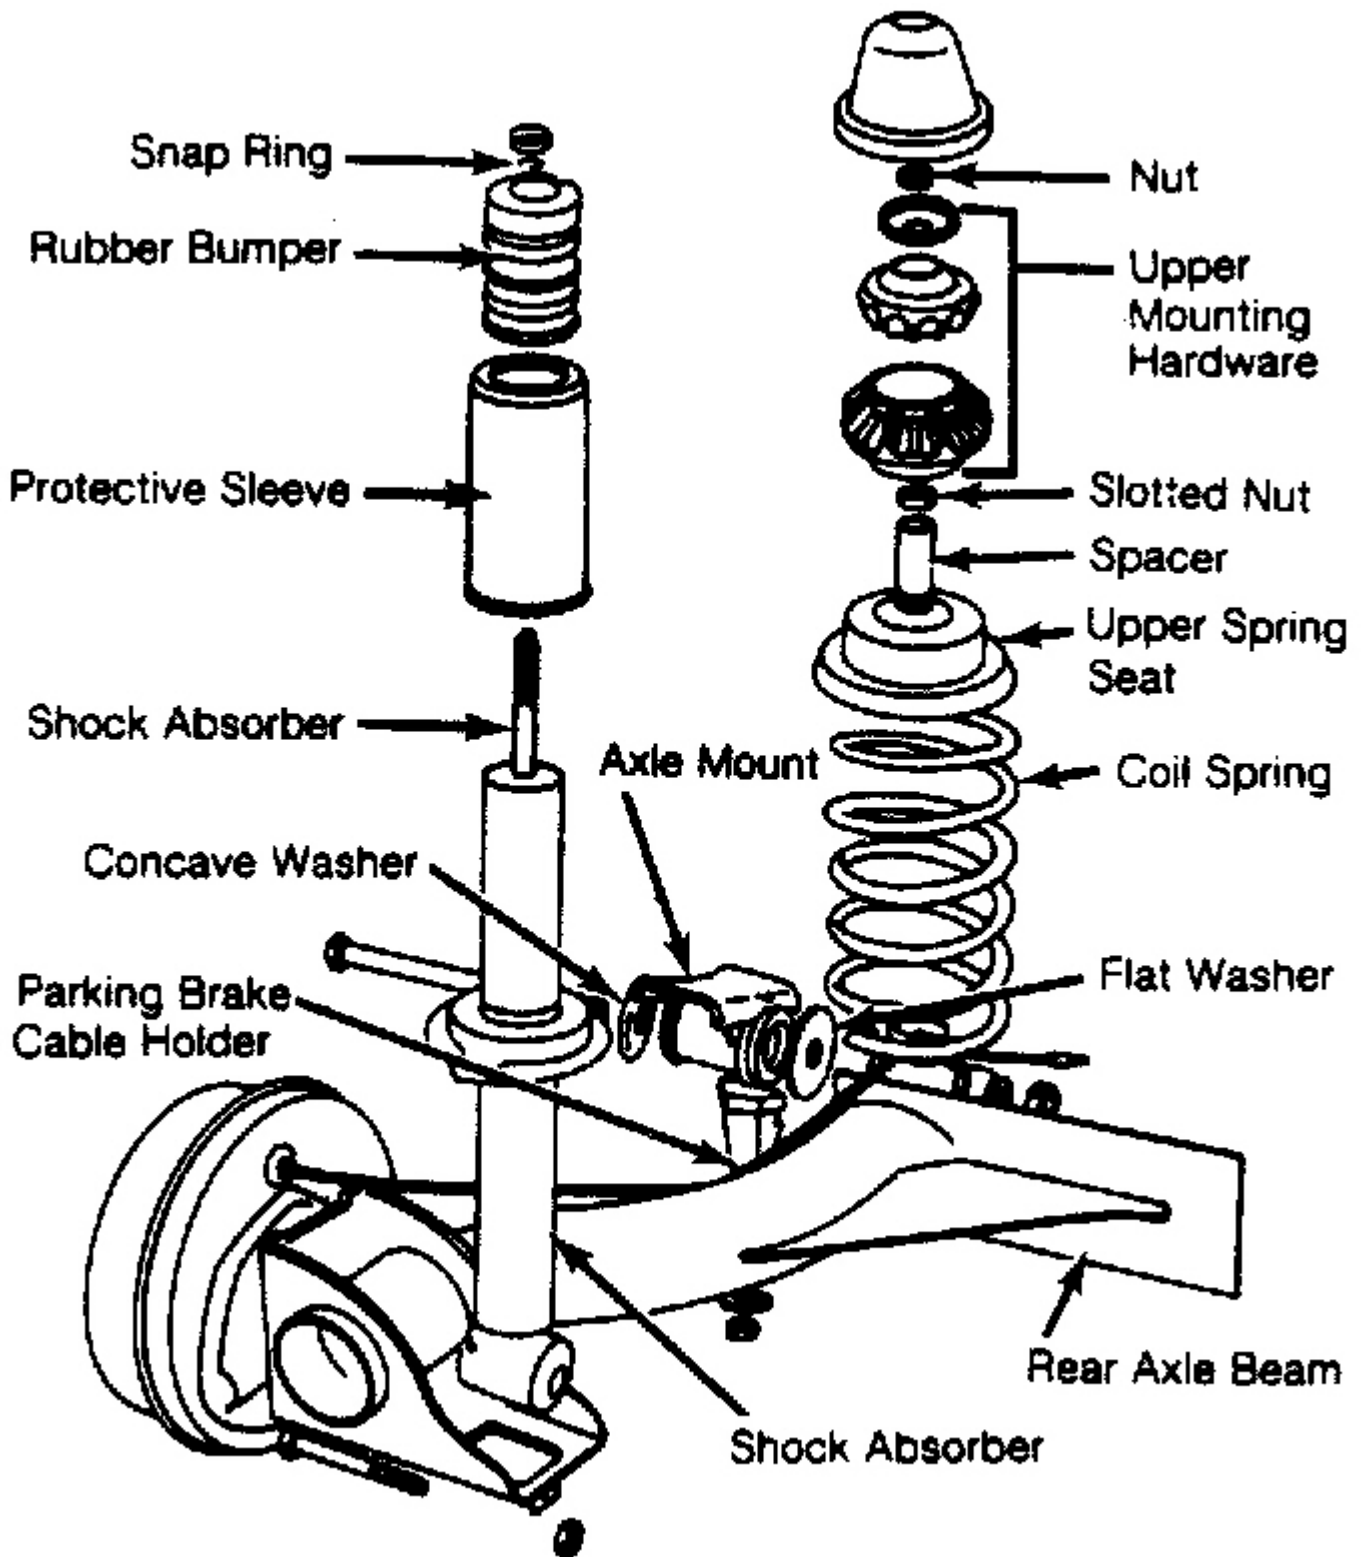

Fig. 1: Identifying Rear Suspension Components (Typical)
Suspension uses control arms and axle beam for stabilization. Control arms and axle beam are combined as one unit. Brake drums or discs rotate on stub axles bolted to control arms. See **Fig. 1**.
2. Hold piston rod. Remove strut/shock retaining nut and related components. See **Fig. 1** . Remove slotted nut (some models). Remove spacer and coil spring. If coil spring is to be replaced, ensure paint stripe color on replacement spring matches original spring color stripe.